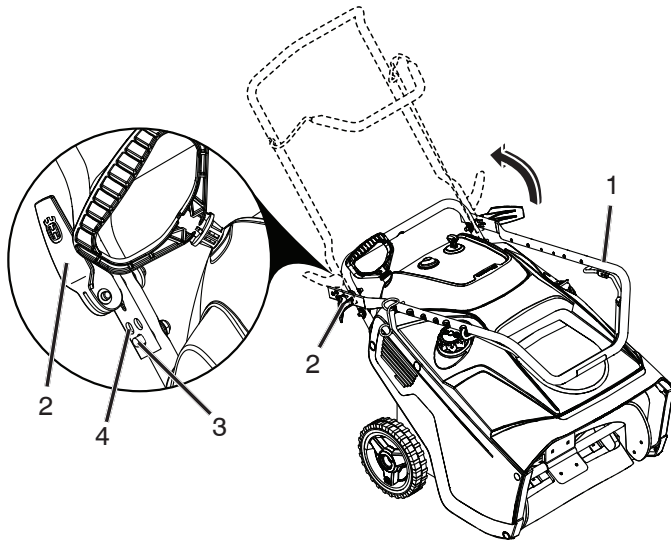

Figure 2
1. Lift operator handle up to the desired height, and close adjustment lever ensuring the positioning pin on the lower handle engages one of the three holes on the upper handle (Figure 2).